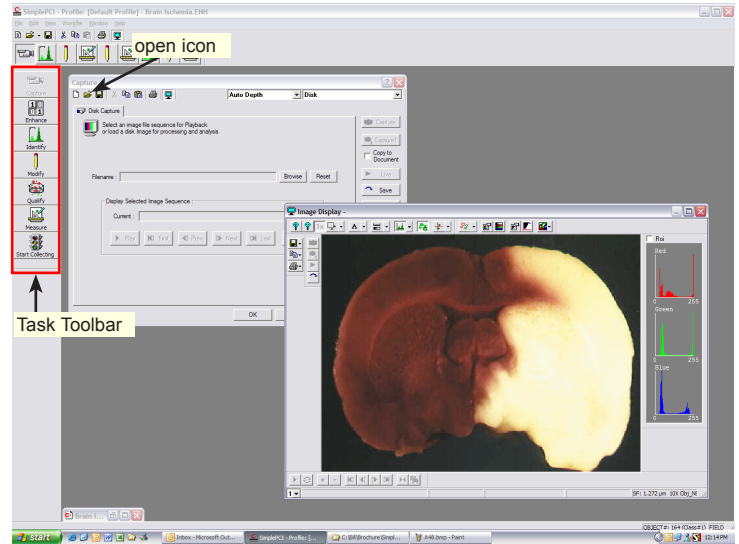

fig.41
2. Click the camera icon to activate the **Capture** window and the **Image Display** (fig.41).
3. Select **Disk** from the top-right drop-down menu (fig.41). Click the **Open** icon in the Capture window. Locate **Brain Ischemia.tif** in the example CD. **Examples/Examples/Images/Brain Ischemia.tif > Open.** The image will appear in the image display.